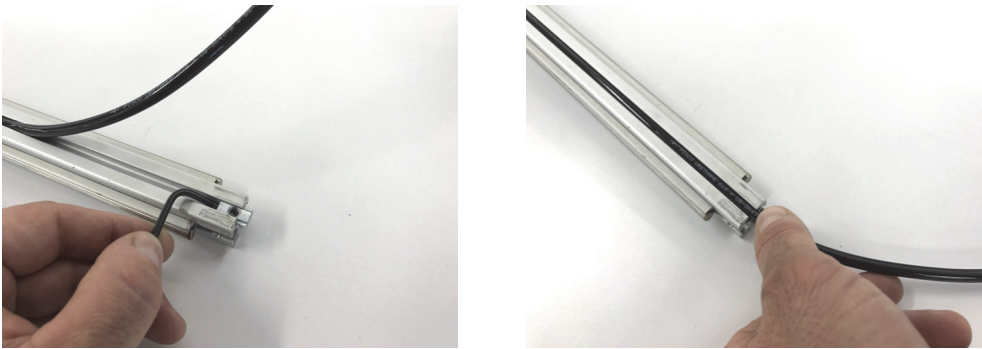

Figure 2-10 Removing the nut (*left*) and feeding the tube to the frame end (*right*)
5. Remove the frame nut on the open end of the frame, and push the tube into the frame slot past the frame end (see Figure 2-10 on page 33).